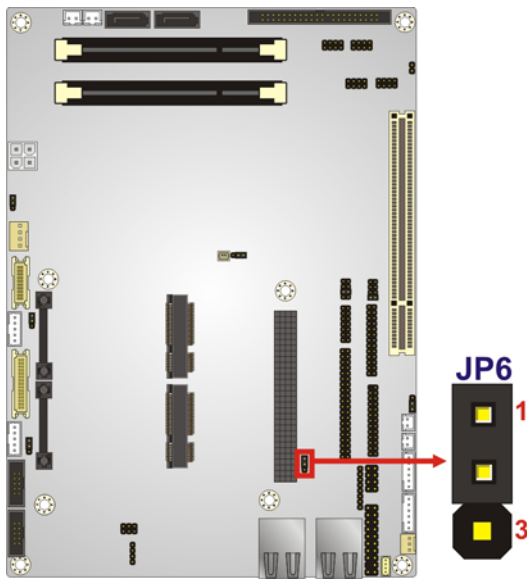

Figure 4-11: PCI-104 Voltage Jumper Location
- Jumper Location:** See Figure 4-11